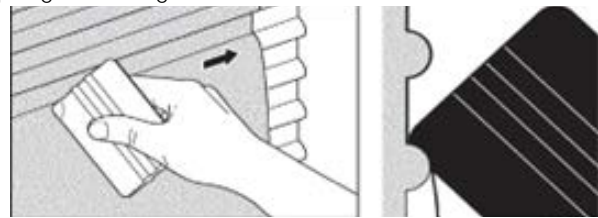

Figure 3. Squeegee the crown of the corrugation.
4. Apply the film to the top of the corrugation with the corner of the squeegee. See Figure 3.